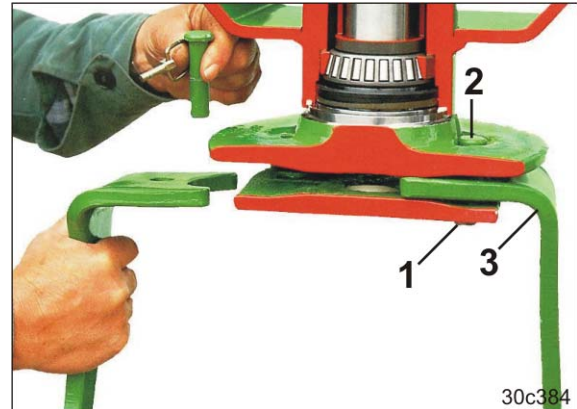

Fig. 127
2. Remove the lynch pin (Fig. 127/1).
3. Remove the pin (Fig. 127/2) from the tool carrier by striking it in an upwards direction.
4. Replace the tool tines (Fig. 127/3).